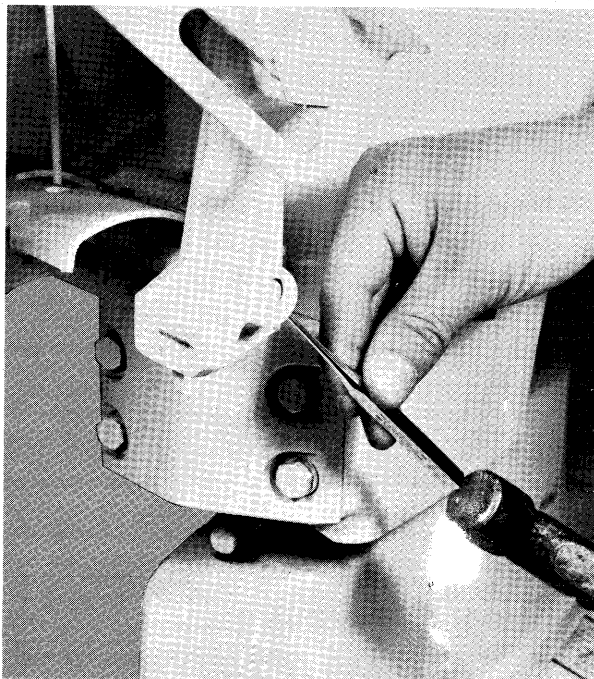

Figure 2—Driving Out Spring Pin
- B. Drive out spring pin securing reverse lock pin to swivel bracket as shown in figure 2.
- B. Align holes of spring and reverse lock with reverse lock pin. Drive pin through holes of spring and reverse lock aligning spring pin hole of reverse lock with hole in swivel bracket. Secure reverse lock pin to swivel bracket by driving in spring pin. See figure 2.